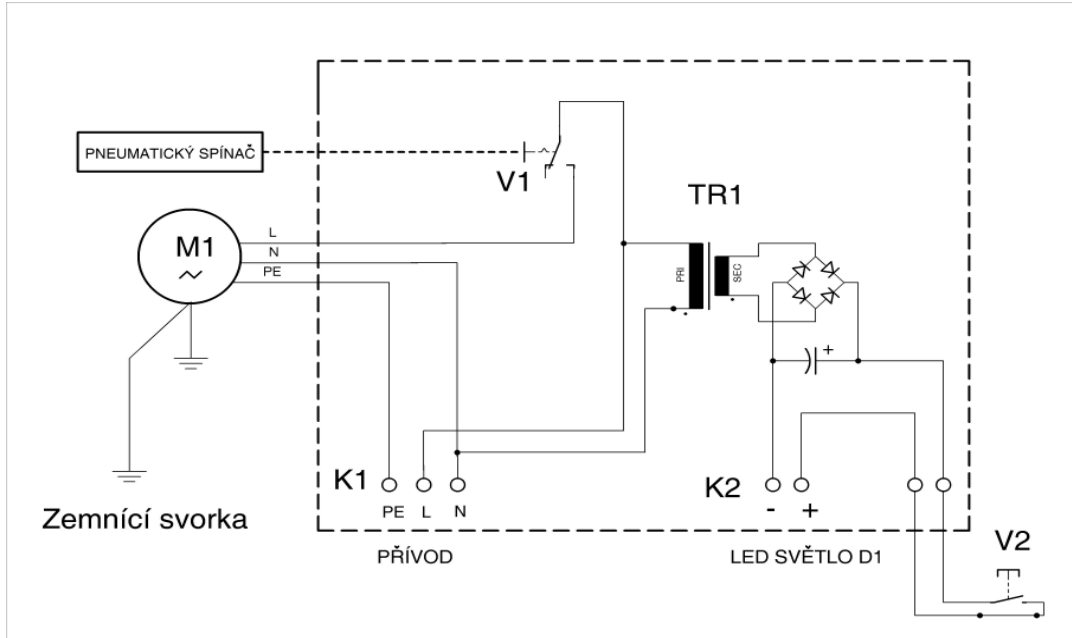

Fig. 6
- For connecting the inlet cable to the counter-flow unit cable distribution box see Fig. 6.